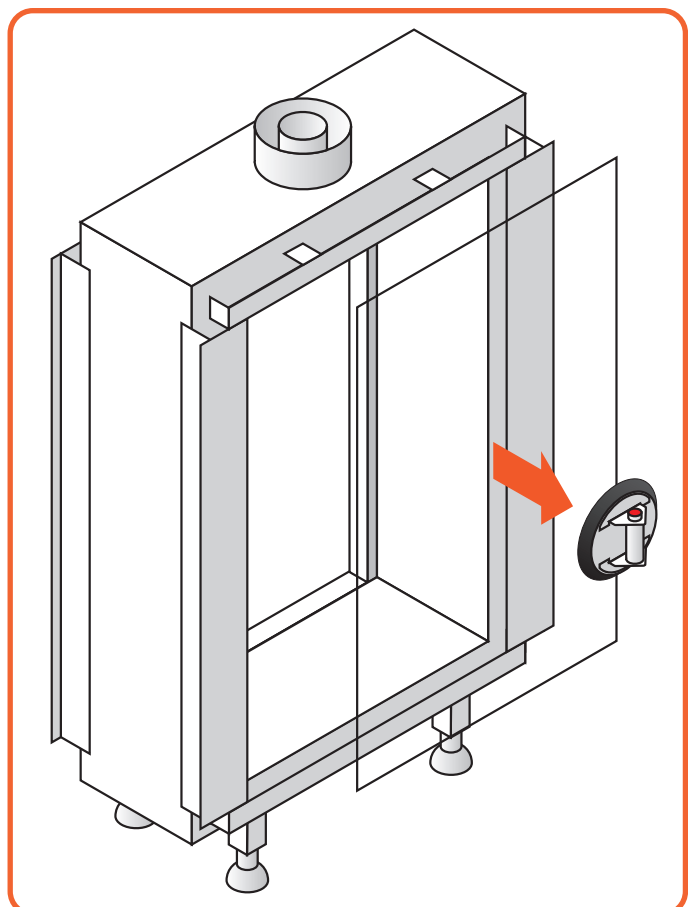

Figure 9.9 | Carefully lift the glass out of the fireplace
- Lift the glass out of the lower glass rail and tilt it out through the opening, as seen in Figure 9.9.